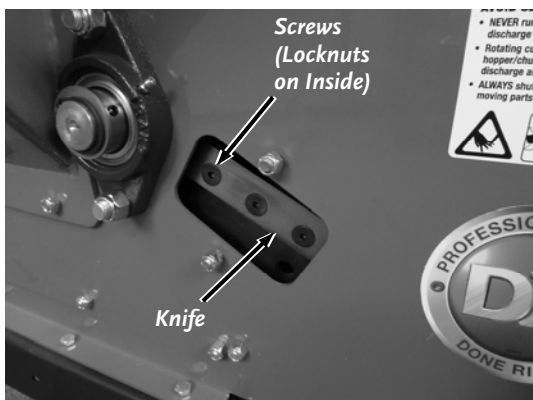

Figure 27
4. Rotate the Flywheel until the Knife is centered in the opening (**Figure 27**).